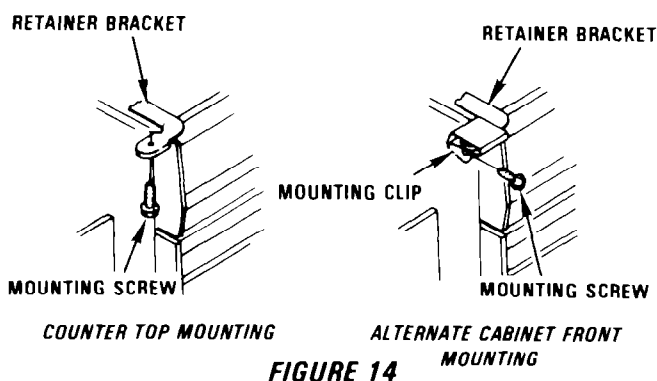

FIGURE 14
13. Fasten the retaining brackets to the underside of the counter top with the screws provided. Use auxiliary clip for fastening to cabinet front when counter top mounting method is not permissible. See Figure 14.